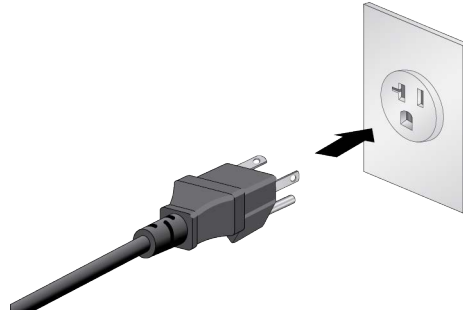

Figure 31. Connecting the Power Cord to an AC Power Source
6. Connect one power cord to an appropriate AC power source. See Figure 31.